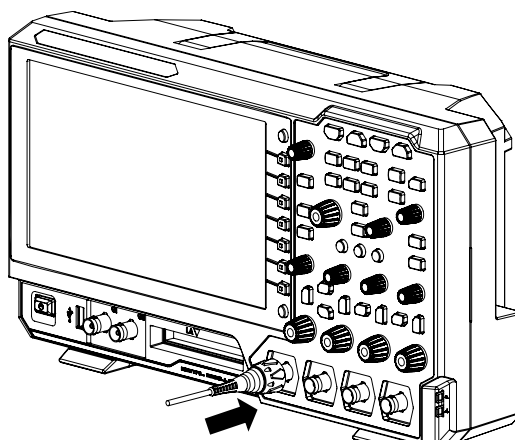

Figure 6 To Connect the Passive Probe
1. Connect the BNC terminal of the probe to an analog channel input terminal of the oscilloscope on the front panel, as shown in Figure 6.